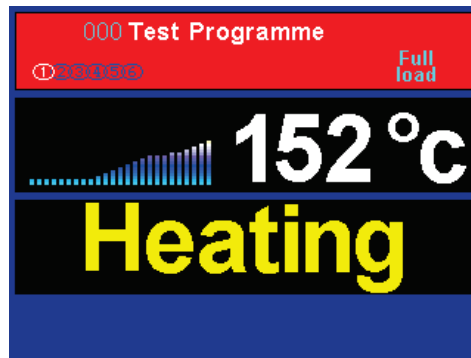

Fig 3
6. Start heating oven by pressing (4) for ½ load bake and (1) for full load, and the following screen will appear. (fig 3)